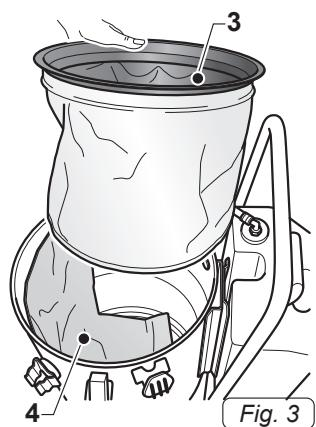

Fig. 3
- Remove the polyester filter (3 Fig. 3).
- Check that the paper bag (4 Fig. 3) is in place inside the appliance.
- If the paper bag (4 Fig.3) is not present, mount it as follows:
- Reassemble the polyester filter (3 Fig. 3).
- Remove the polyester filter (3 Fig. 3) if present.
- Remove the paper bag (4 Fig.3) if present.